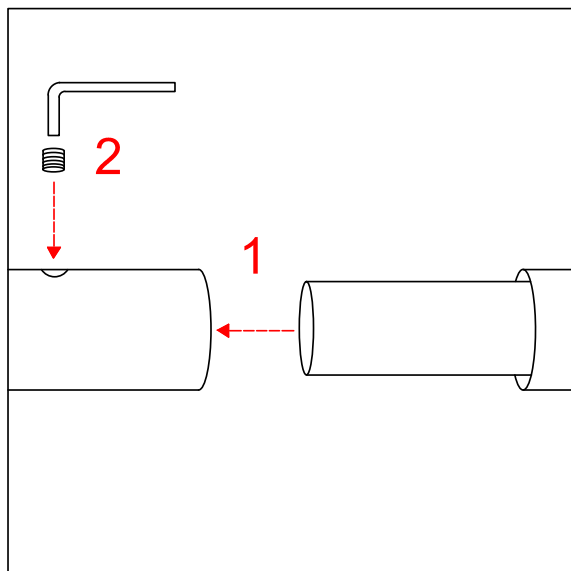

Fig. 1
- B. Insert splice connector (8" to 10" long piece of tubing that is ¼" smaller in diameter than the rod) halfway into each rod end. *[Fig. 1]*